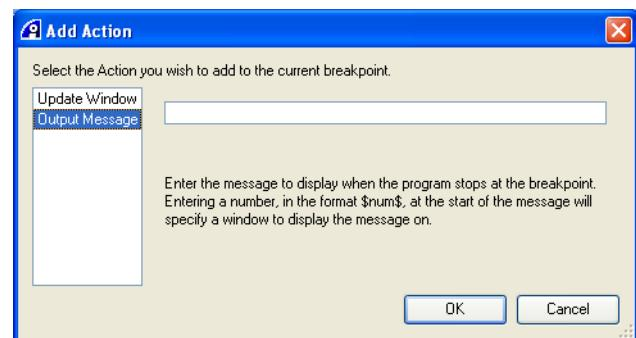

Figure 12-6 Add Action dialog box
- Select the **Output Message** action, shown in Figure 12-6.